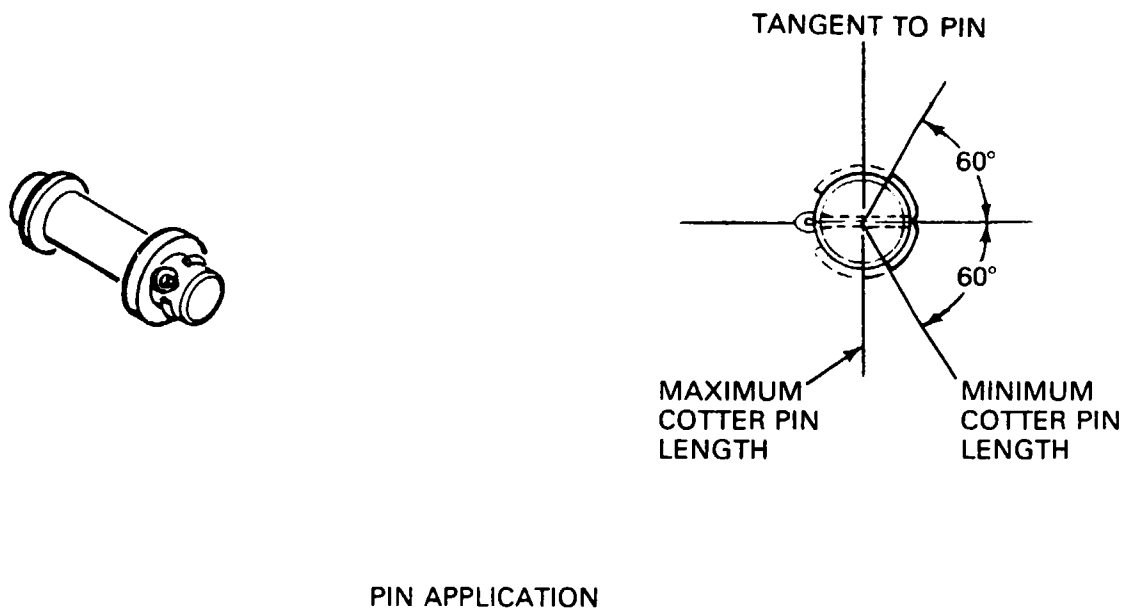

Figure 1-5. Installation of Cotter Pins
(6) Install cotter pin with head firmly in slot of nut with axis of eye at right angles to bolt shank. Bend prongs so that head and upper prong are firmly seated against bolt (see figure 1-5).
(7) In pin applications, install cotter pin with axis of eye parallel to shank of clevis pin or rod end. Bend prongs around shank of pin or rod end (see Figure 1-5).